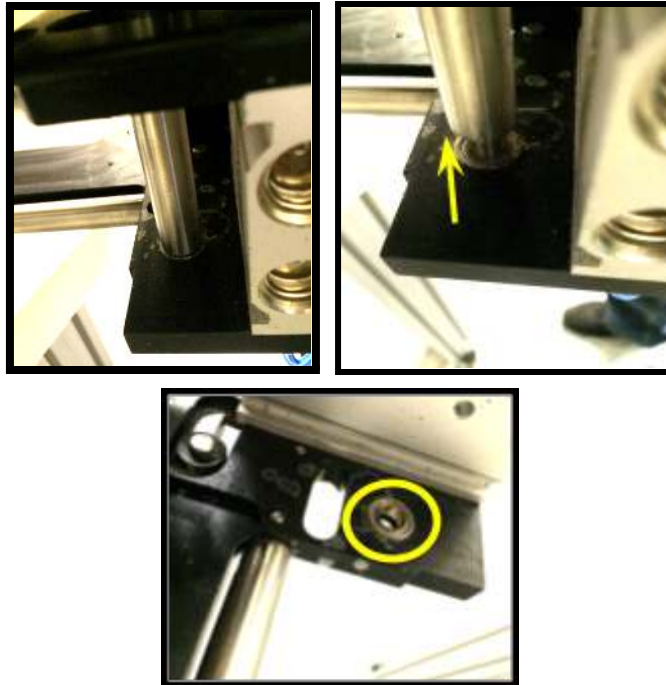

Figure 7. No shaft, with the bearings exposed
9. The two lower roller assembly bearings are found at the bottom of the shaft. Pull up on the shaft to free it from these bearings. Figure 7 below is a before and after of what you will see: